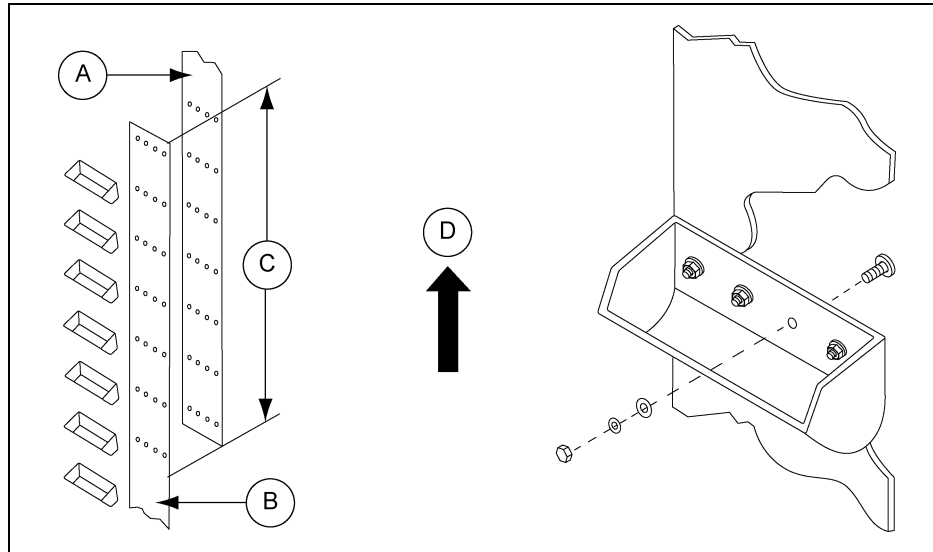

Figure 10A *Belt Splicing*
1. When overlap splicing, draw a 5' minimum of the belt coming up from the bottom of the boot over belt hanging down from head. *(See Figure 10A on Page 31.)*
(See Figure 10A.)